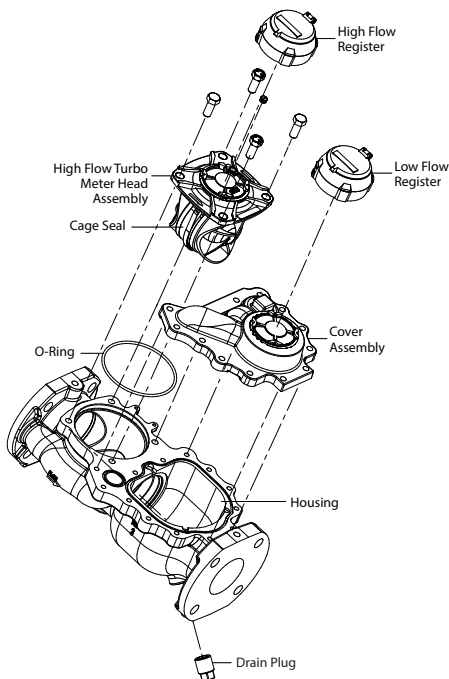

Figure 8: Removing the high flow turbo meter head assembly
A typical installation would be equipped with drain and piping valves. To inspect or replace components of the High Flow Turbo Head Assembly, close the upstream and downstream valves. However, if the installation does not have a drain valve, proceed as follows to relieve pressure. See Figure 8 on page 12.
4. Remove the retaining ring that holds down the calibration drive plate, located under magnet carrier magnet (see Figure 8). Remove drive plate. Rotate calibration ring until pin clears slot of cage. Take hold of the nose cone/straightening vanes and turn clockwise. Pull the nose cone assembly out from the measuring element insert. Remove rotor assembly.